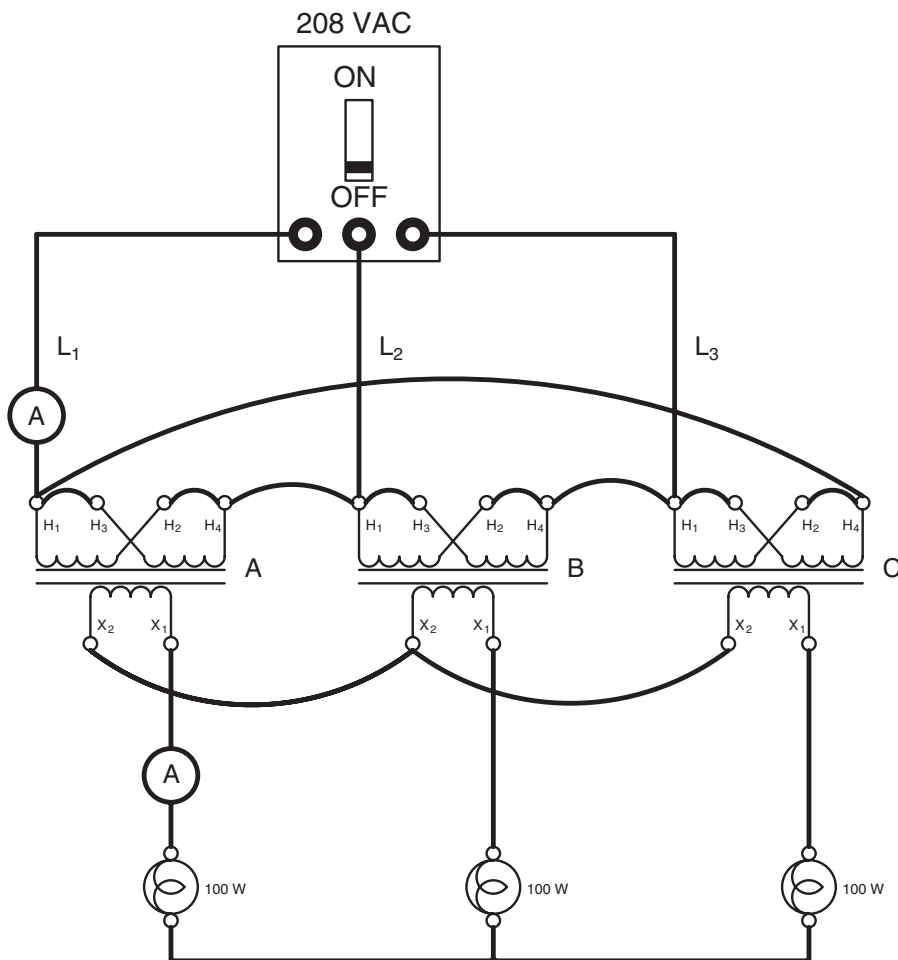

Figure 24-17 Adding load to the connection.
7. Connect three 100 watt lamps to the secondary of the transformer bank. These lamps will be connected in wye to form a three-phase load for the transformer. If available, connect a second AC ammeter meter in series with one of the secondary leads, as shown in Figure 24-17.